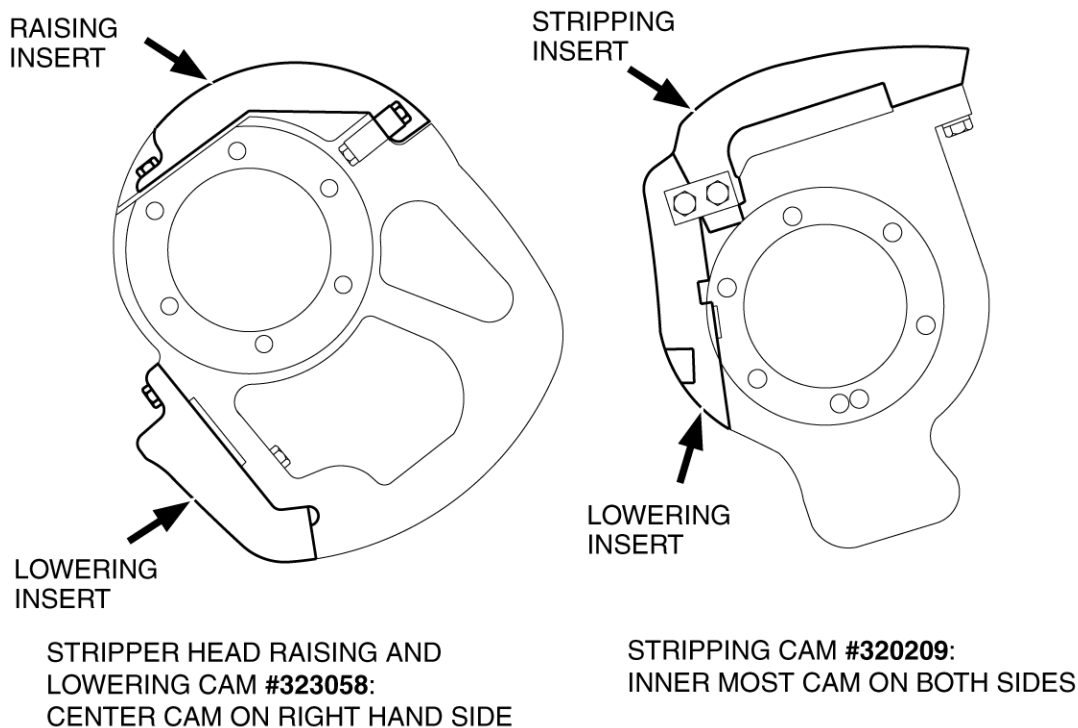

Figure 4.11 CAM INSERTS
- 4.1.4 Install stripping cam insert # 320209 on each side of the machine and one stripper head raising cam insert # 323058 on the right side of the machine (see figure 4.11).